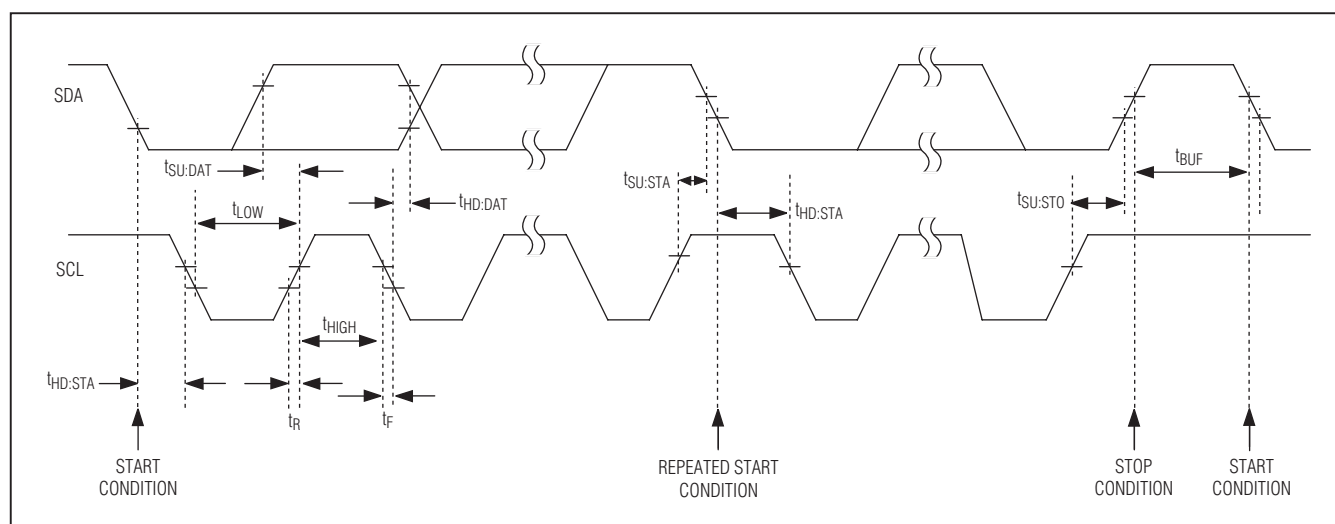

Figure 4. Serial-Interface Timing Details
The 2-wire communication is fully compatible with existing 2-wire serial interface systems; Figure 4 shows the interface timing diagram. The device is a transmit/receive slave-only device, relying upon a master device
A Repeated START (SR) condition may indicate a change of data direction on the bus. Such a change occurs when a command word is required to initiate a read operation (see Figure 4). SR may also be used when the bus master is writing to several I2C devices and does not want to relinquish control of the bus. The device serial interface supports continuous write operations with or without an SR condition separating them. Continuous read operations require SR conditions because of the change in direction of data flow.